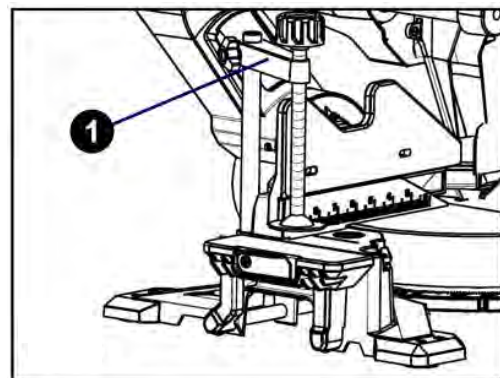

Fig. 5: Mounting the clamp
Step 4: Lift the clamp handle (Pos.1, Fig. 5) to move the clamp up or down as needed. Lower the workpiece clamp handle to lock the workpiece.